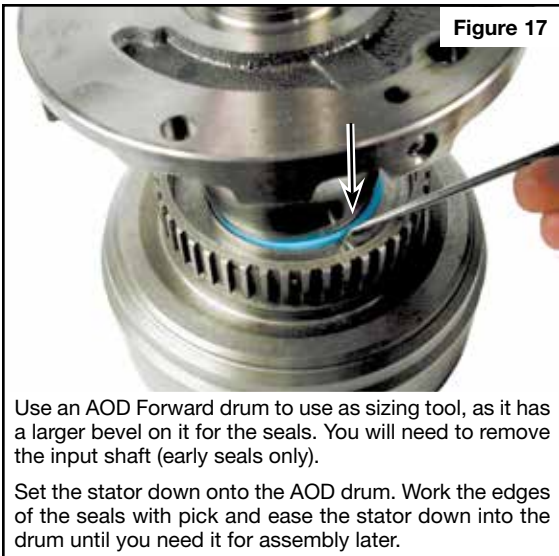

Figure 17
- An AOD Forward drum can be used to size the early stator seals (Figure 17). The seals can also be sized with the Forward drum, although it may take a little longer. Carefully use the back of a pick to work the seal into the drum and let sit for a while so the seal will stay conformed.